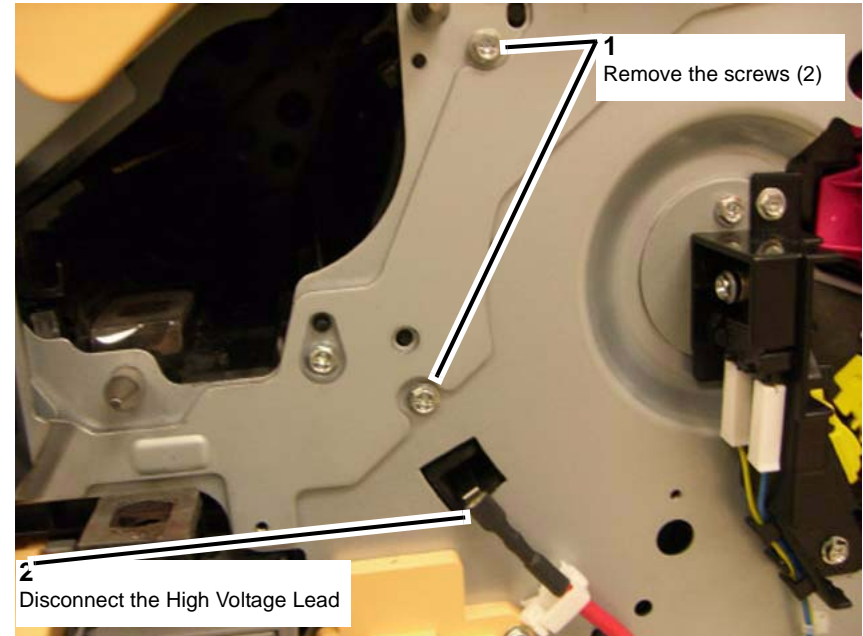

Figure 2 Removing the screws (2) and disconnecting the High Voltage Lead
7. Remove the screws (2) and disconnect the High Voltage lead. (Figure 2)